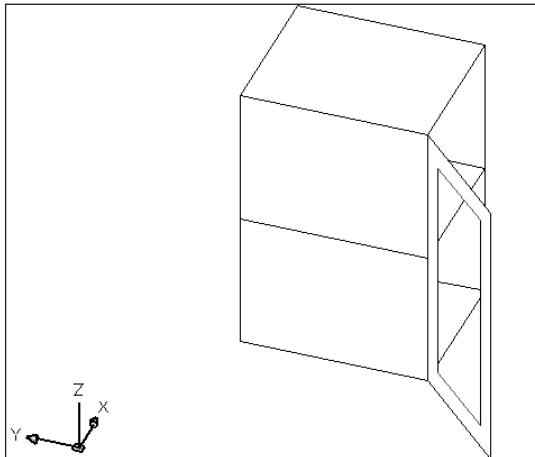

Figure 23-8: The completed kitchen cabinet, including a window in the door
15. Save your drawing. It should look like Figure 23-8.